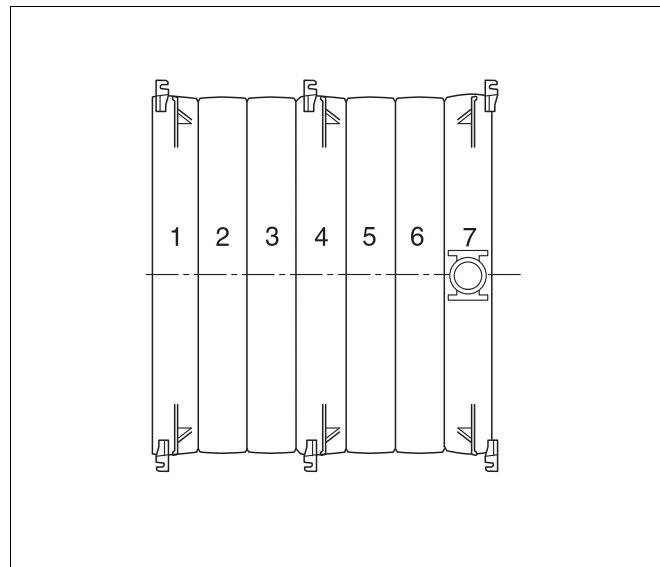
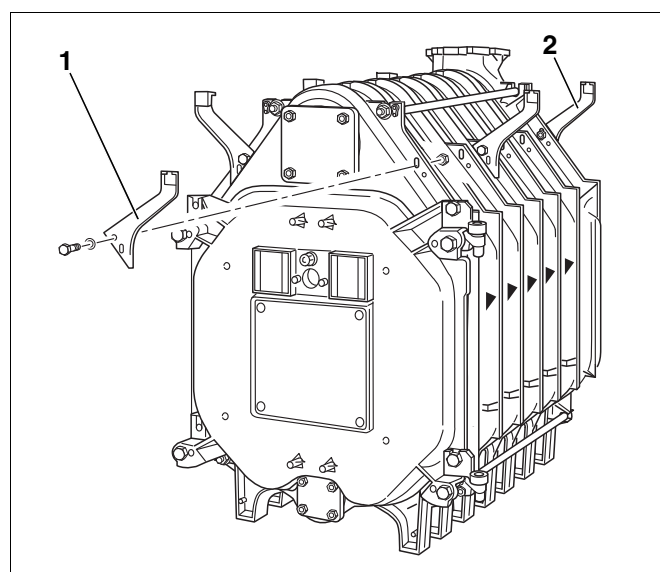

Fig. 35 View from above: boiler block (7 boiler sections) with brackets
Fig. 36 Installing the mounting brackets
- Loosely screw the brackets for the boiler casing onto the upper ribs of the boiler sections on the left and right as shown in the table below and Fig. 35 and Fig. 36.
- Screw the brackets on the rear section (Fig. 36, [2]) to the ribs from behind.
- Screw the brackets of the front and centre sections (Fig. 36, [1]) on from the front only.